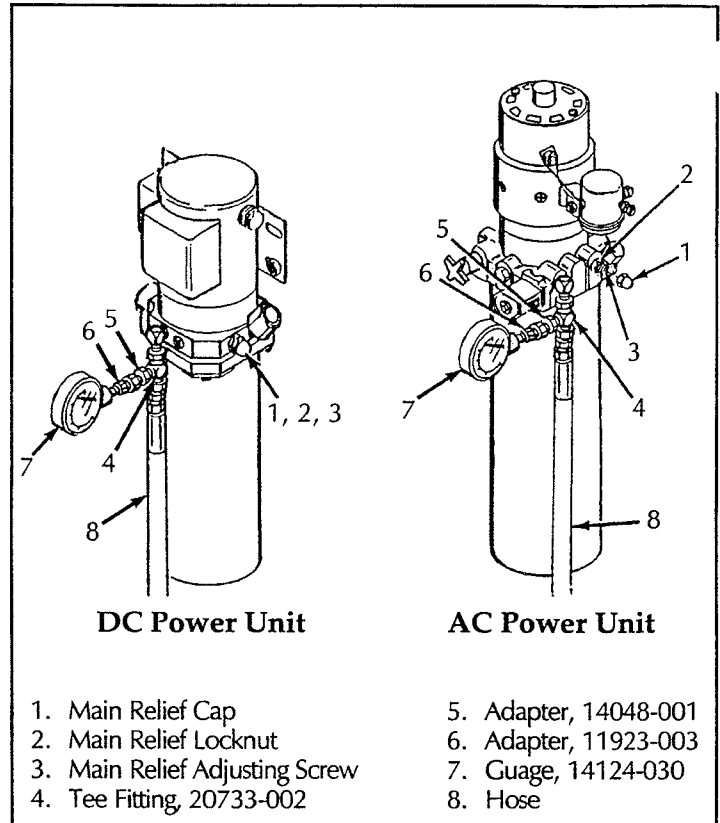

Figure 4-4: Relief Valve Adjustment
4.4 Setting System Relief Pressure (Figure 4-4)